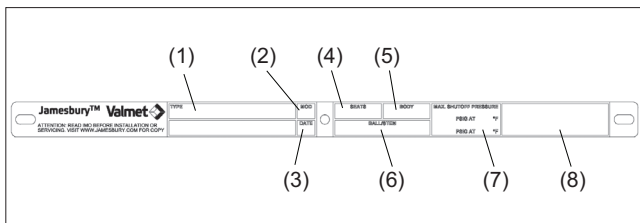

Figure 1. Identification plate
The valve has an identification plate (19) attached to the flange (see Figure 1).